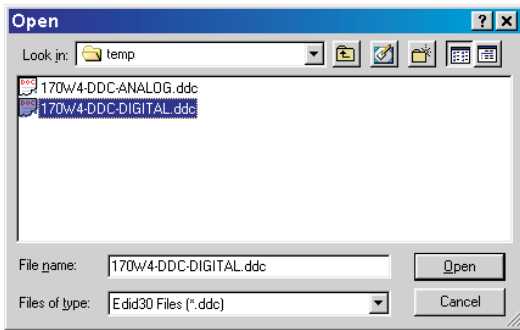

Fig. 48
- Select the file you want to open as shown in Fig 48.